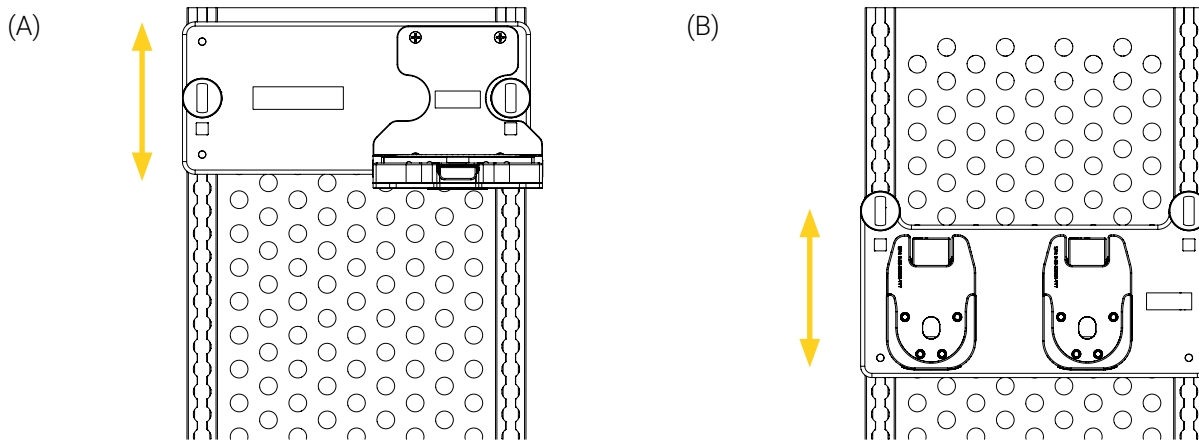

Figure 8: Adjusting the position of the mounting system on the vertical tracks
- Slide the mounting system up or down the vertical tracks, to adjust the position (Figure 8).